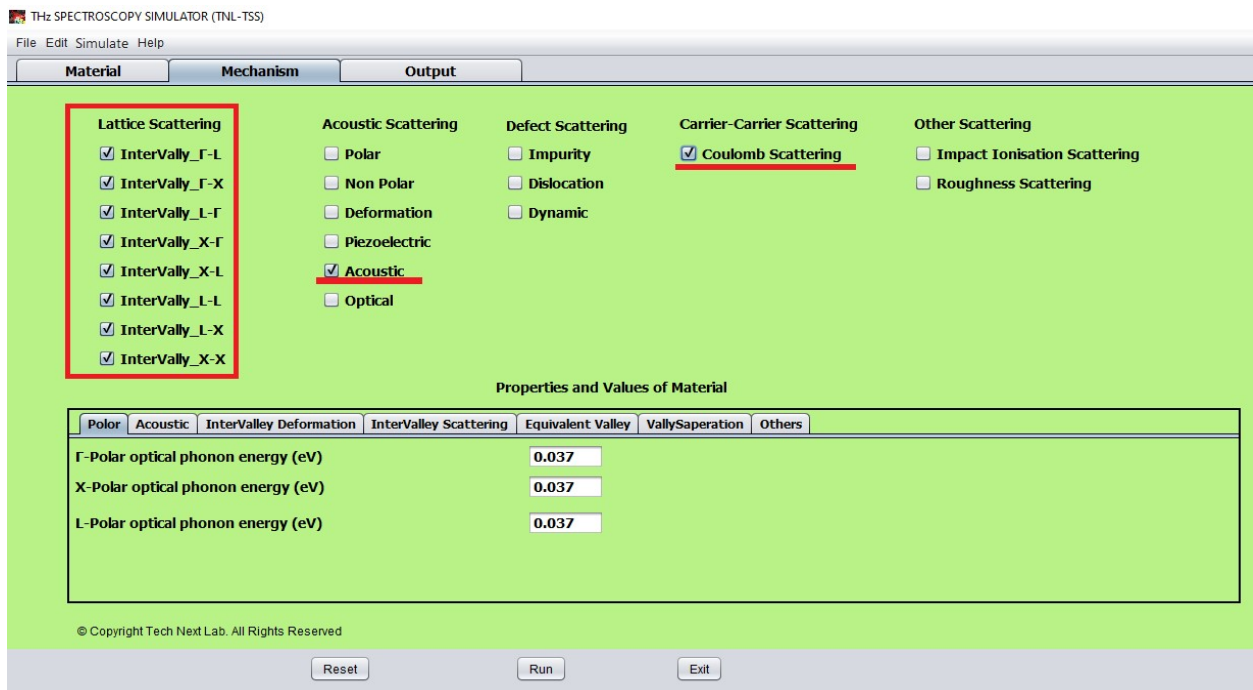

Figure 15: Mechanism tab with selected scattering mechanism (Lattice, Acoustic and Coulomb).
Step 6: Click on Mechanism tab. Mechanism will open as shown in figure 15.